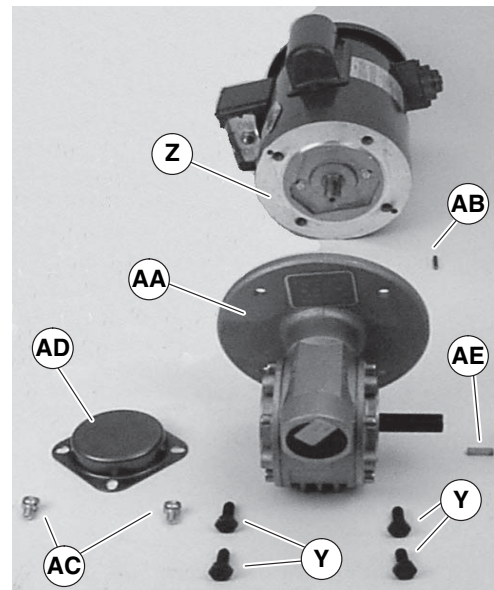

Figure 22
5. Remove four screws (Figure 22, item Y). Detach motor (Z) from gear reducer (AA). Retain motor output shaft key (AB).
11. With key (Figure 22, item AE) in keyway, slide motor (Z) and gear reducer (AA) together. Install screws (Y) and tighten.